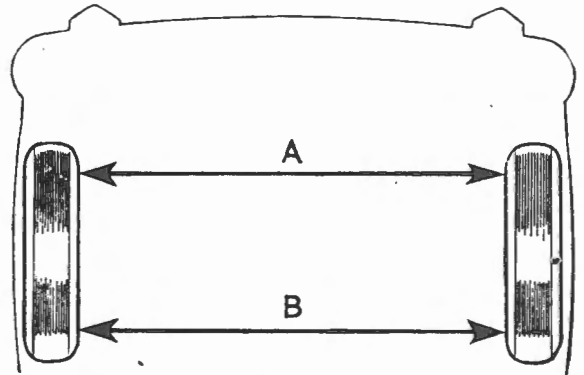

Fig. Q-1
- 1 When a base-bar type gauge is used, the measurement must be taken in front and behind the wheel centre at the rim edge, move the vehicle forward half a road wheel revolution and take another measurement at the same point on the wheel rim. Toe-in is 0 to 3.175 mm (0 to 1/8 in). Fig. Q-1.